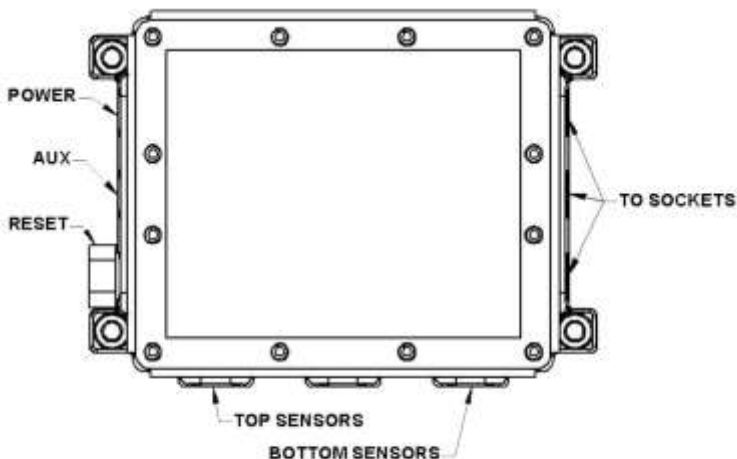

Fig. 3
1. After the monitor housing is mounted, install FloTech FT402 cable glands in the openings where needed. These are, as illustrated in Fig.3: Power, Top Sensors, Bottom Sensors (if equipped) and Socket.
Only use the conduit opening marked "POWER INPUT" as shown in Fig.3 to wire power to the monitor.